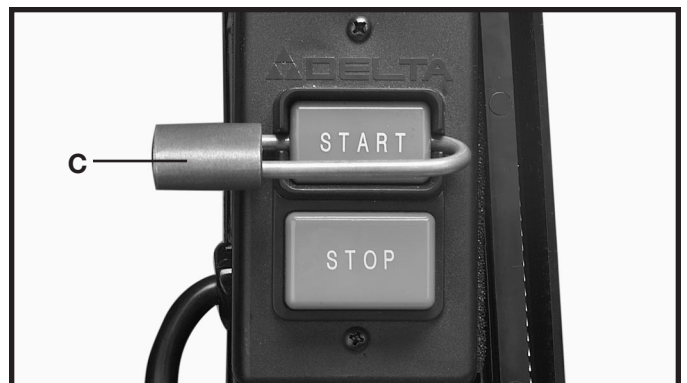

Fig. 42
IMPORTANT: When the tool is not in use, the switch should be locked in the "OFF" position to prevent unauthorized use, using a padlock (C) Fig. 42 with a 3/16" diameter shackle.